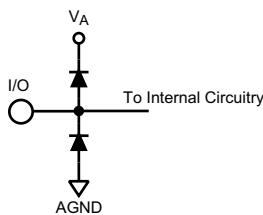

Figure 1.
- (1) The inputs are protected as shown below. Input voltage magnitudes above V_A or below GND will not damage this device, provided current is limited per Note 4 in the Absolute Maximum Ratings table. However, errors in the A/D conversion can occur if the input goes above 2.6V or below GND as described in the Operating Ratings section, see Figure 1.
- (2) With a full scale differential input of $2V_{P-P}$, the 14-bit LSB is 122.1 μV .
- (3) Typical figures are at $T_A = 25^\circ C$ and represent most likely parametric norms at the time of product characterization. The typical specifications are not guaranteed.
- (4) This parameter is specified in units of dBFS - indicating the value that would be attained with a full-scale input signal.
- (3) Typical figures are at $T_A = 25^\circ\text{C}$ and represent most likely parametric norms at the time of product characterization. The typical specifications are not guaranteed.
- (2) With a full scale differential input of $2V_{P-P}$, the 14-bit LSB is $122.1 \mu\text{V}$.
- (4) This parameter is guaranteed by design and/or characterization and is not tested in production.